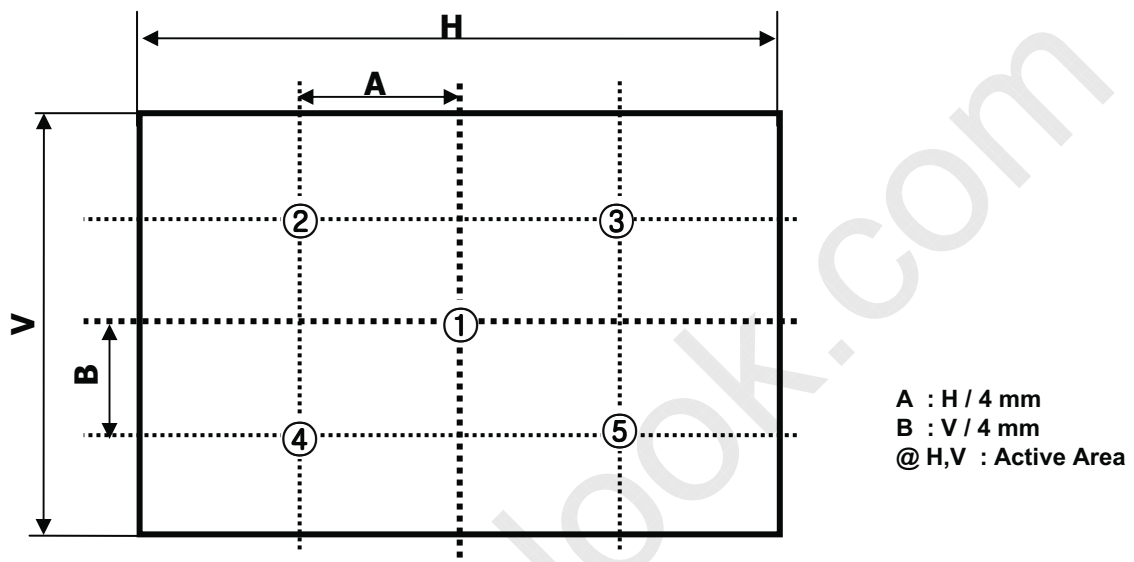

FIG. 2 5 Points for Luminance Measure
n = the Position number(1, 2, 3, 4, 5). For more information, see FIG. 2.
2. Surface luminance is determined after the unit has been 'ON' and 1 Hour after lighting the backlight in a dark environment at 25±2°C. Surface luminance is the luminance value at center 1-point across the LCD surface 50cm from the surface with all pixels displaying white. For more information see the FIG. 2.
For more information, see the FIG. 2.